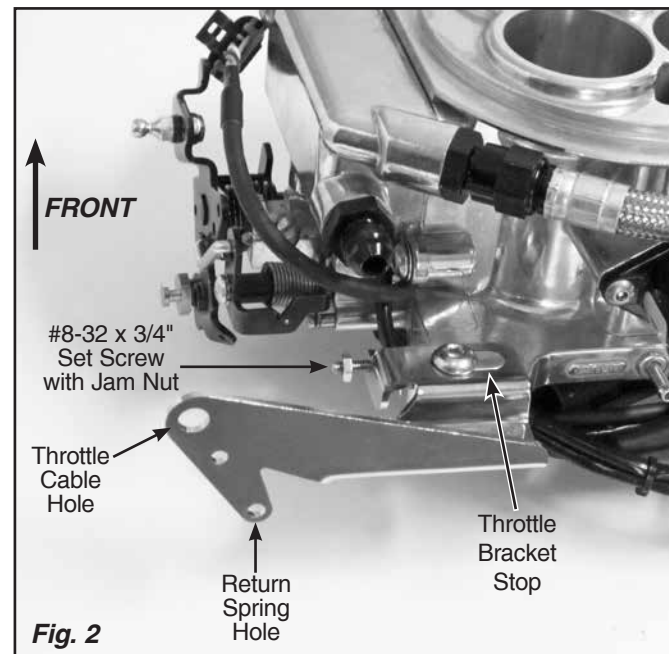

Fig. 2
**Step 1:** Remove the throttle body mounting bolt from the left rear corner of the throttle body. Position the Lokar Throttle Cable Bracket as shown in Fig. 2. Drop the throttle bracket stop into the unused mounting bolt hole at that corner of the throttle body base. Reinstall the throttle body mounting bolt. Snug it down finger tight, but do not fully tighten it yet.